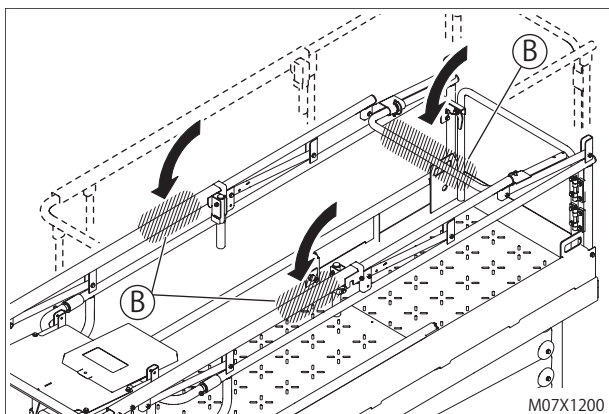

fig. 8-9
- (5) Keep holding the parts B, slowly push down the guardrails forward until the top rails rest on the middle rails (see fig. 8-9).
Do not hold guardrails except the areas B (see fig. 8-9) when the guardrails fold down. Your hands might be pinched between the rails.